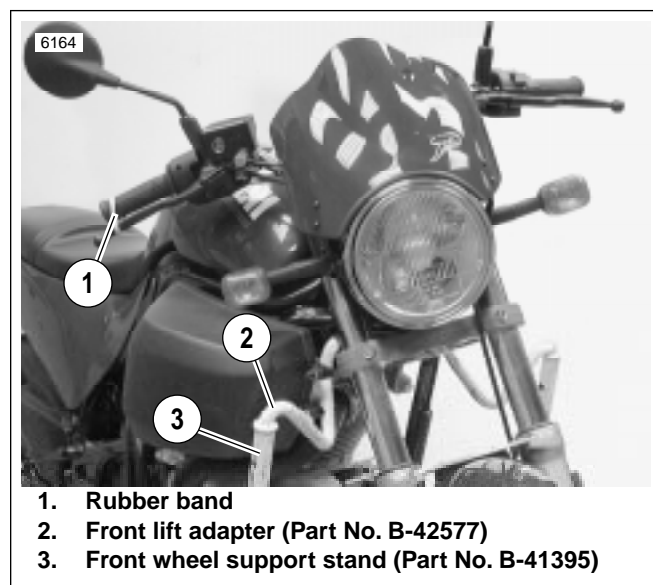

Figure 2. Lifting Motorcycle
1. See Figure 2. Raise front wheel off the ground using FRONT WHEEL SUPPORT STAND (3) (Part No. B-41395) and FRONT LIFT ADAPTER (2) (Part No. B-42577).
2. Rotate the wheel to gain access to a drive pin assembly. Place a rubber band (1) around the front brake lever and right handlebar.